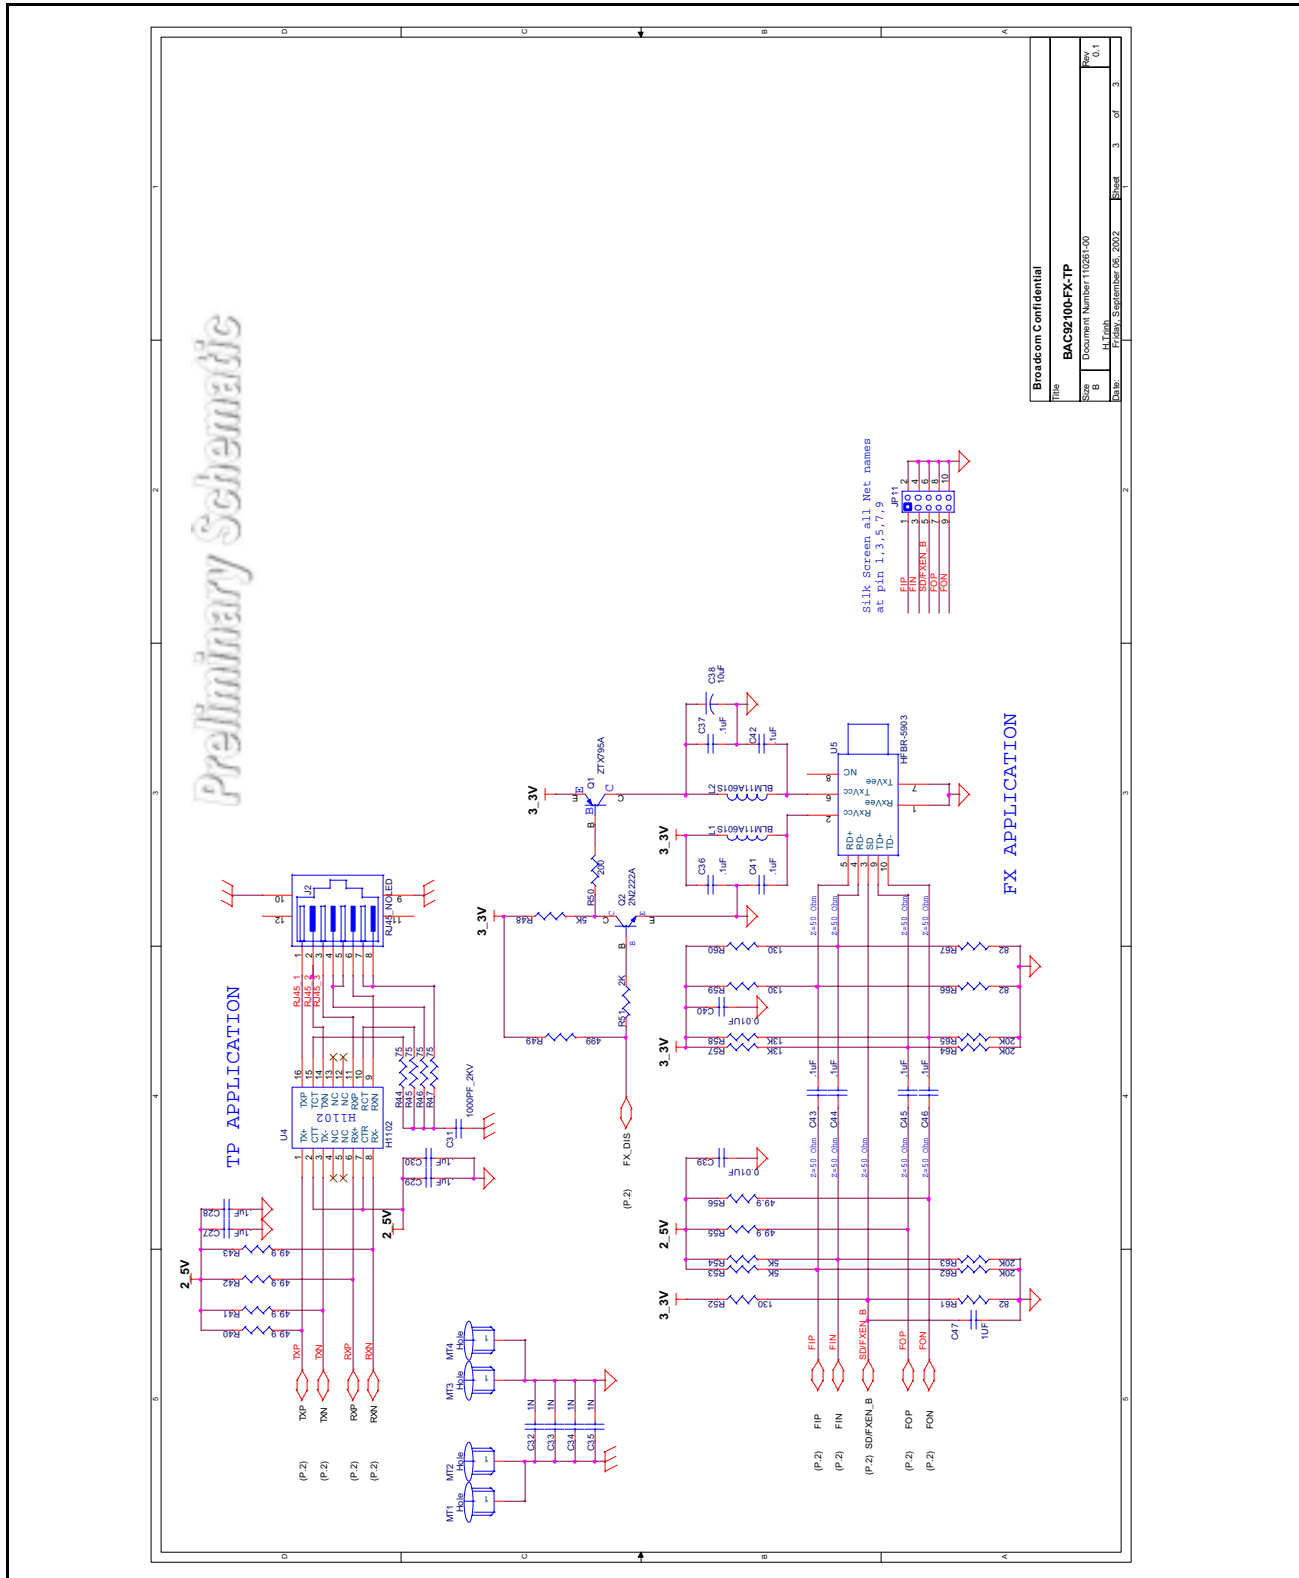

Figure 12: AL2100 Reference Schematic (page 2 of 2)
- See Figure 12: "AL2100 Reference Schematic \(page 2 of 2\)," on page 20.